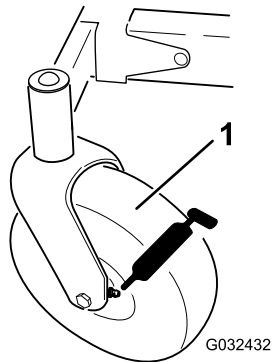

Figure 34
3. Clean the grease fittings (Figure 34 and Figure 35) with a rag.
4. Connect a grease gun to each fitting (Figure 34 and Figure 35).